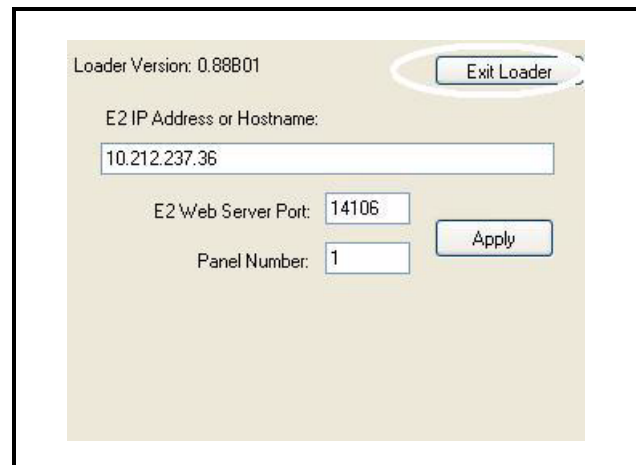

Figure 5-11 - General FSD Information Screen
3. A loader screen will appear (*Figure 5-11*). Touch **Exit Loader** at the top right of the screen.